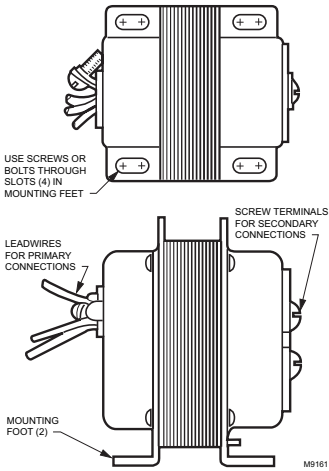

Fig. 1. Foot mounting.
2. Make line voltage primary connections within an approved enclosure. See Fig. 1.